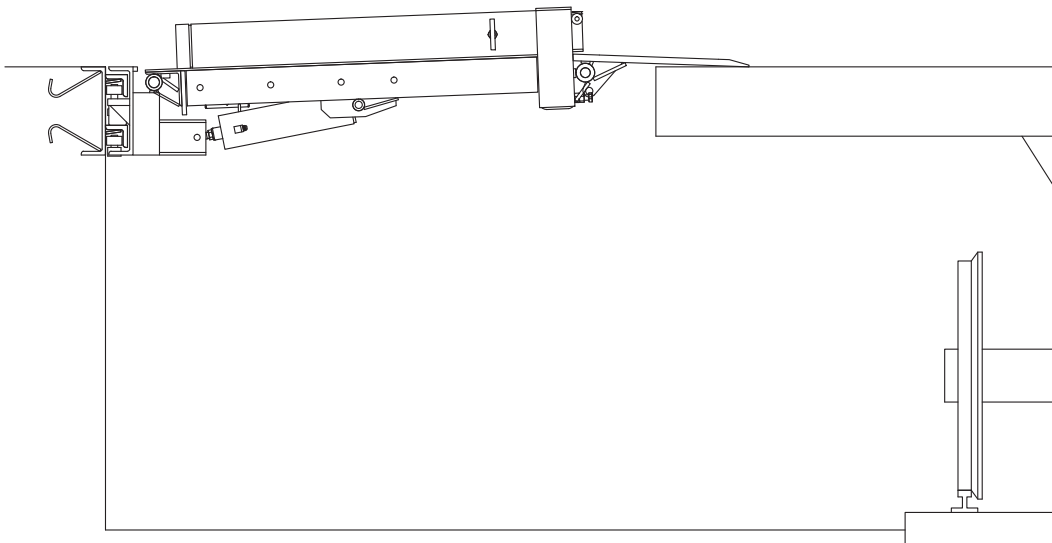

Figure 23
a. Press and hold the LOWER button (A) until leveler reaches transport vehicle, then allow leveler to descend into transport vehicle.
b. Make sure that the lip is fully extended and supported on the transport vehicle along the entire width of the platform, with at least 4 in. (102 mm) of lip contacting the transport vehicle bed. See Figure 23.
5. When loading or unloading is finished, raise the platform by Pressing and holding RAISE (B) button until the leveler is fully raised.